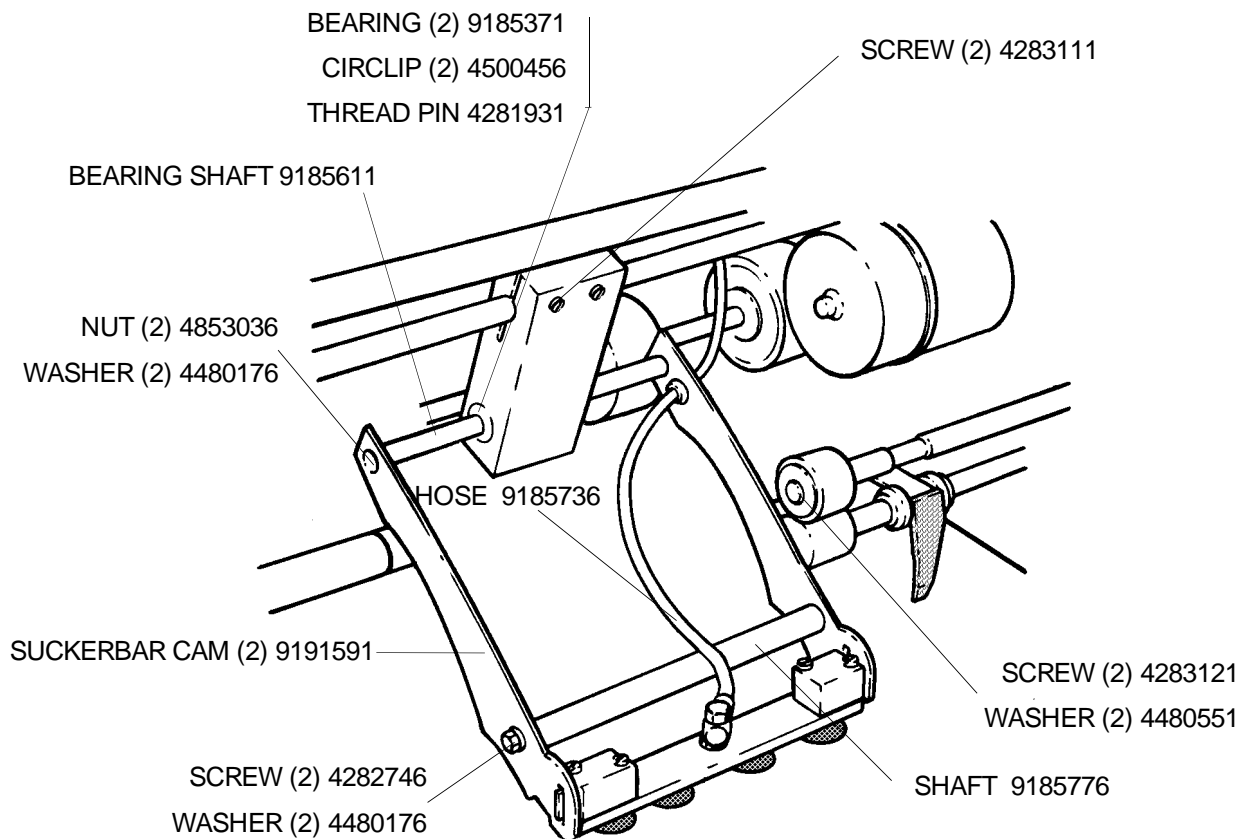

figure 2
10. Remove and discard indicated parts on figure 2. Install new parts.